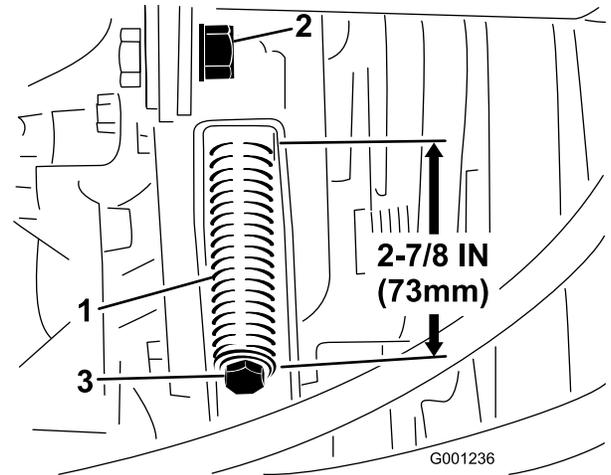

Figure 76
3. Loosen the tensioning-rod jam nut (Figure 76).
4. Use a 1/2-inch wrench to tighten or loosen the belt-tensioning spring (Figure 76). Adjust spring to a length of 273 mm (7/8 inch).
4. Using a 1/2-inch wrench, loosen the belt-tensioning spring (Figure 76) all the way.
6. Install the new PTO belt and tension the pulley spring to 73 mm (2-7/8 inches) in length (Figure 76).
7. Tighten the jam nut (Figure 76) and close the hood.